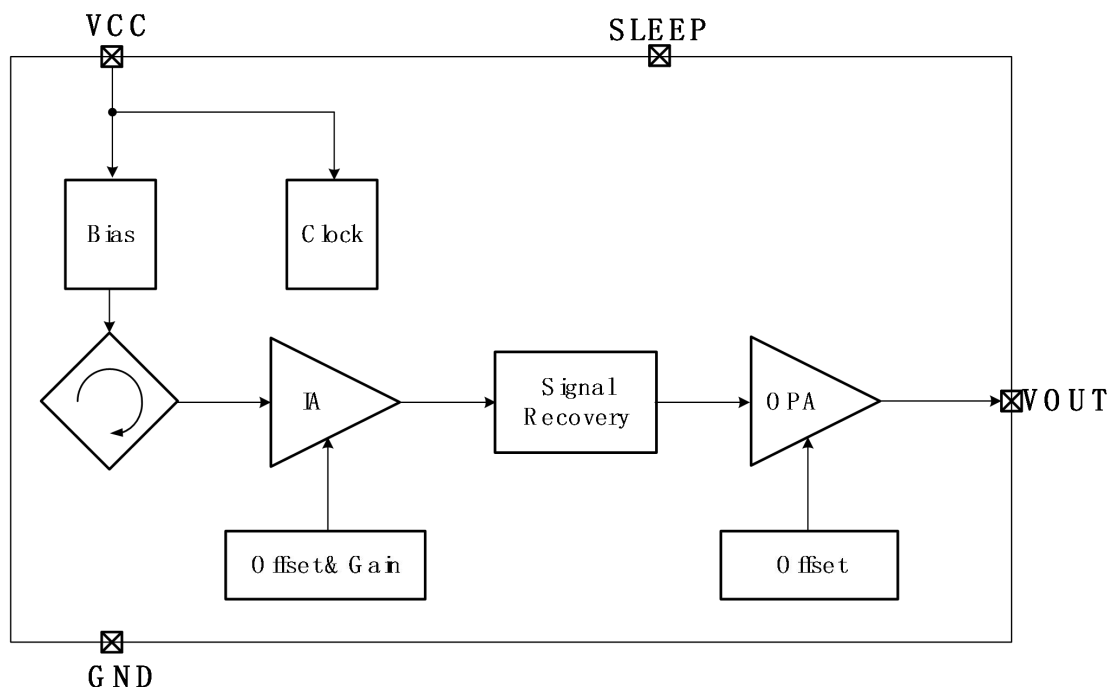

Fig.4 Functional block diagram ITE5921
The sensor IC is shown in Fig.4. The main path comprises a Hall probe, signal chain with instrumentation amplifier (IA), signal recovery circuit and operational amplifier (OPA). The background dynamic offset compensation circuits in signal chain and Hall probe continuously null out the Hall offset and circuits offset. The on-chip temperature and VCC sensors ensure the IC accuracy.